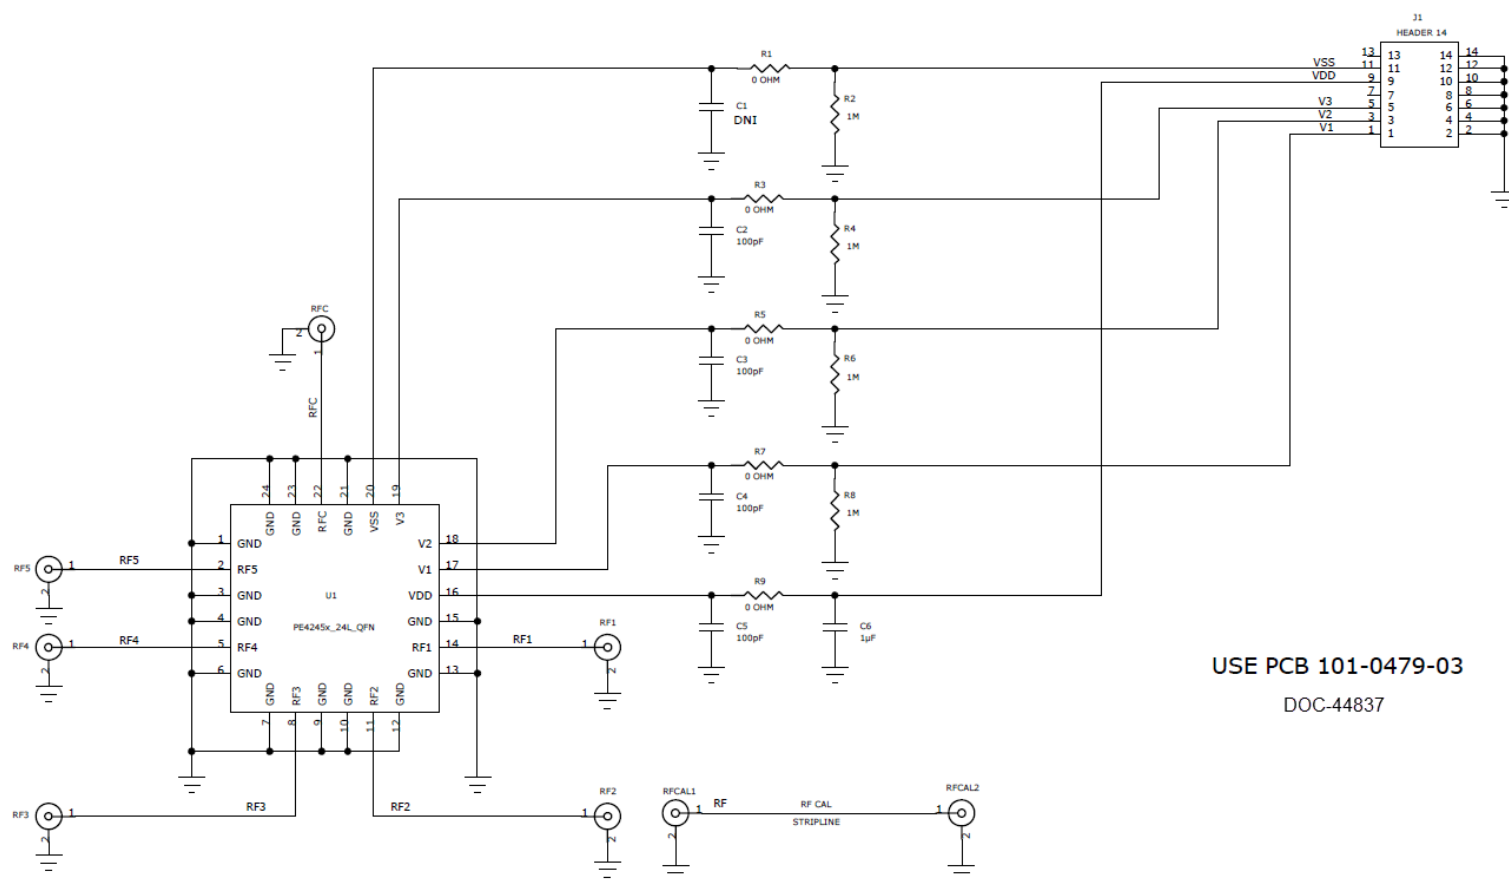

Figure 17. Evaluation board schematic
2. The pull-down resistor in the EVK schematic (Figure 17) can increase the control current.